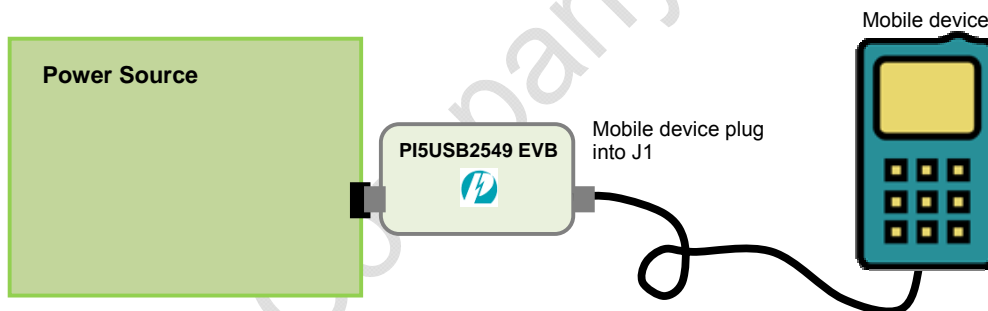

Figure 3, Connection of PI5USB2549 EVB
2. Connect the EVB between 5V power source and mobile device as Figure 3